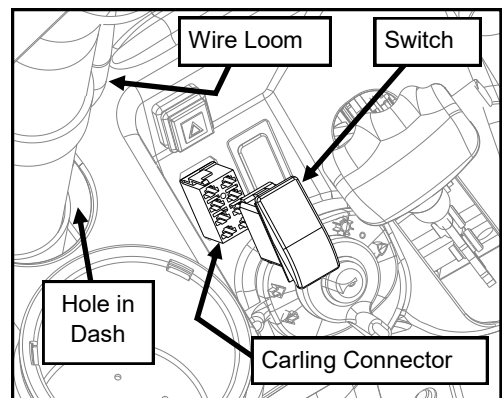

Fig. 2.3A
- 2.3 Open vehicle hood. From under the hood, route the Carling 8-pin connector (on provided wiring harness) through the rectangular cut-out in the vehicle dashboard. Plug the Carling connector into the back of the switch. Snap switch into dashboard. (See Figure 2.3A).
- 2.5 Route long section of harness up through the hole in the dash at the driver's side front ROPS tube (See Figure 2.3A).
2.4 Feed the short section of harness down through the hole in the dash at the driver's side front ROPS tube (See Figure 2.3A on previous page) and connect to the fuse block. See switch panel installation instructions for proper wiring locations.